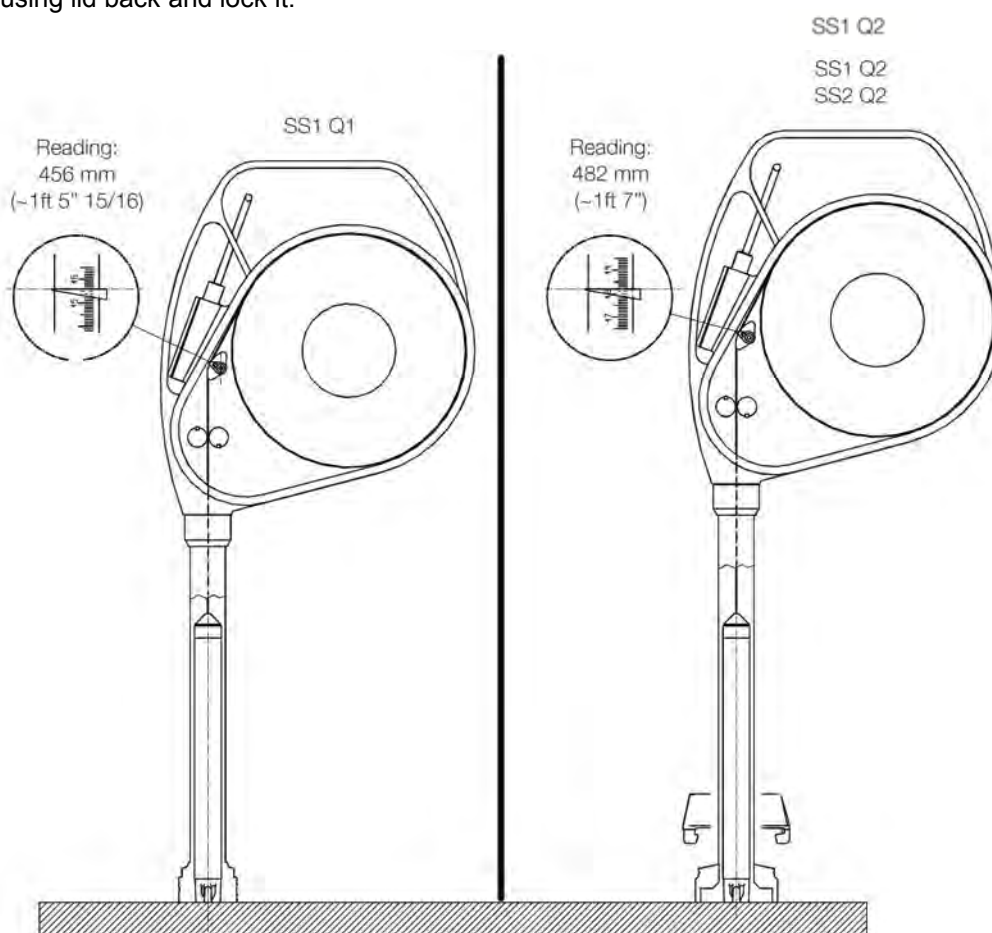

Figure 10-11
- if the equipment is fitted with a 2" connector (Q2) remove the clip and the collar as shown on Figure 10-11;
- gently lower the tape until the sensor touches the surface (Figure 10-11);
- adjust the index to the value corresponding to the connector Q1 or Q2, as shown on Figure 10-11;